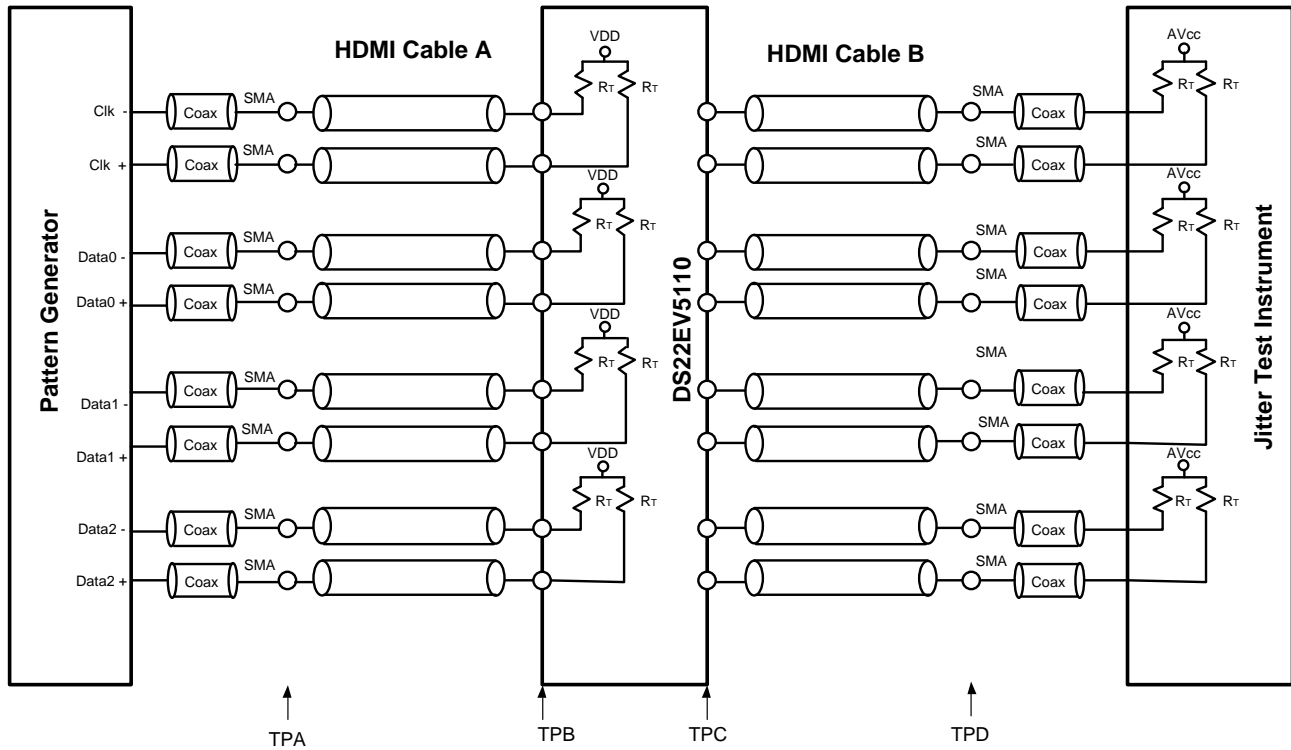

Figure 1. Test Setup Diagram
- (3) Parameter is specified by statistical analysis and/or design.
- (4) Deterministic jitter is measured at the differential outputs (TPC of Figure 1), minus the deterministic jitter before the test channel (TPA of Figure 1). Random jitter is removed through the use of averaging or similar means.
- (5) Total Jitter is defined as peak-to-peak deterministic jitter from + 12 times random jitter (ps).
- (6) Random jitter contributed by the equalizer is defined as $\text{sq rt}(J_{\text{OUT}}^2 - J_{\text{IN}}^2)$. J_{OUT} is the random jitter at equalizer outputs in ps-rms, see TPC of Figure 1; J_{IN} is the random jitter at the input of the equalizer in ps-rms, see TPA of Figure 1.